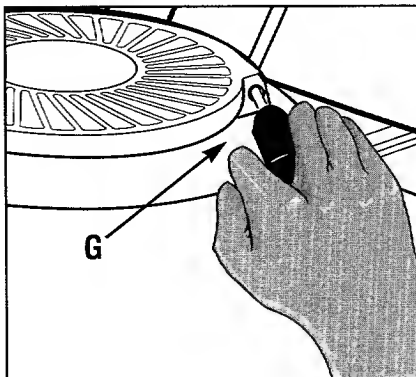

Figure 4-4: Engine recoil starter.
B. Grasp rope handle (G, Figure 4-4) and pull slowly until rope pulls slightly harder. Let rope rewind slowly. Then pull rope with a rapid, full arm stroke. Let rope return slowly. If engine fails to start after three pulls, repeat instructions starting with Step 2 (try setting throttle at fast setting).